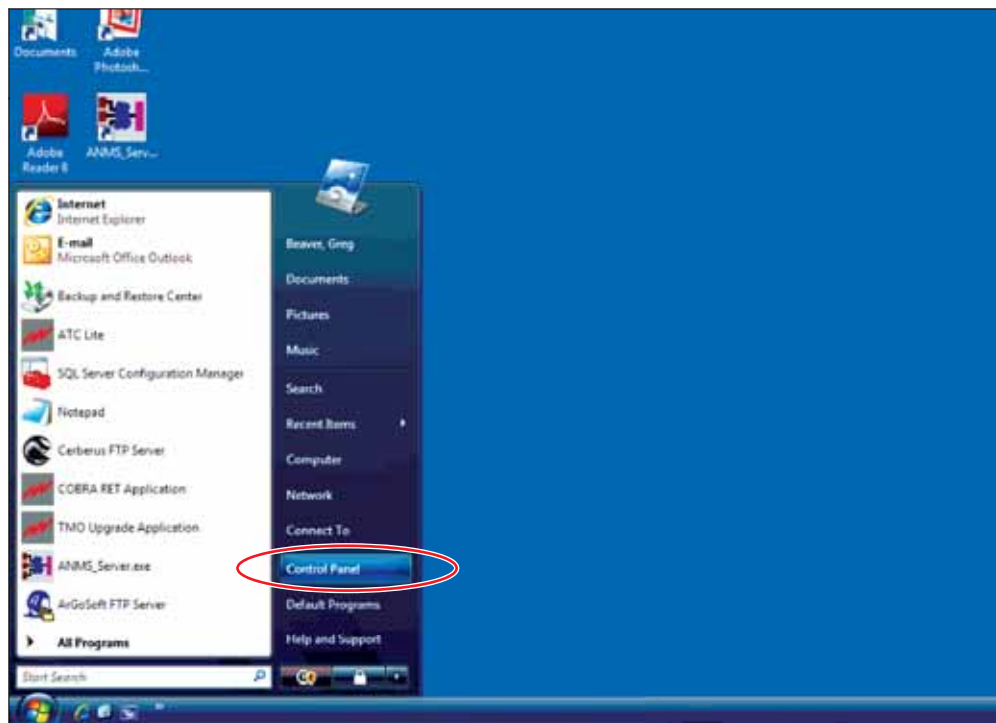

Figure 15-1. Selecting Control Panel.
1. From your desktop, you are going to select **Start** → **Control Panel** (Figure 15-1).